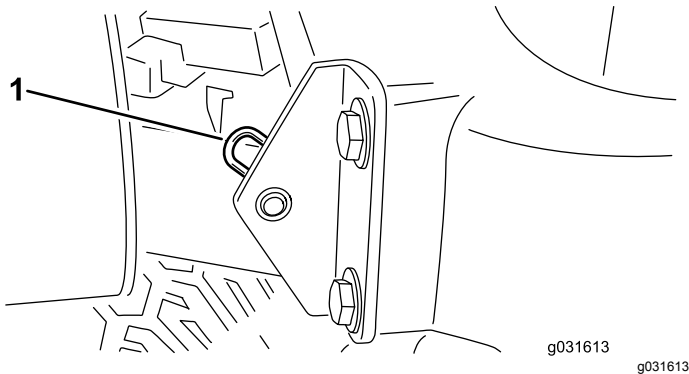

Figure 25
2. Remove the hairpin cotter securing the hood pivot to the mounting brackets (Figure 25).